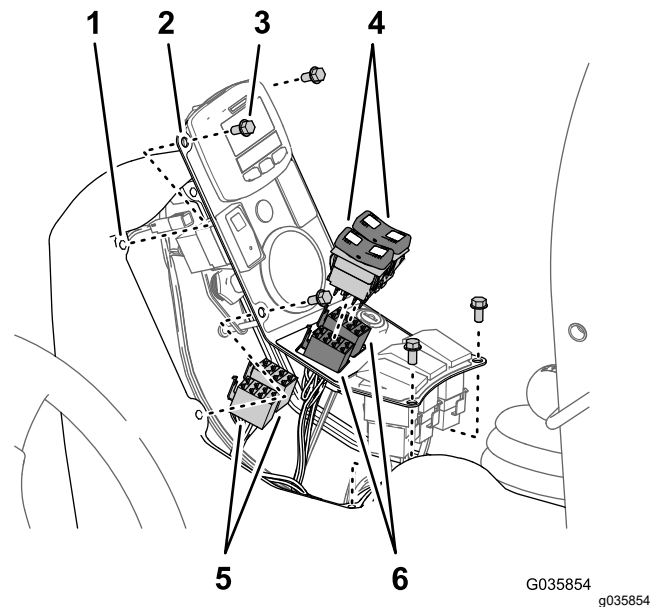
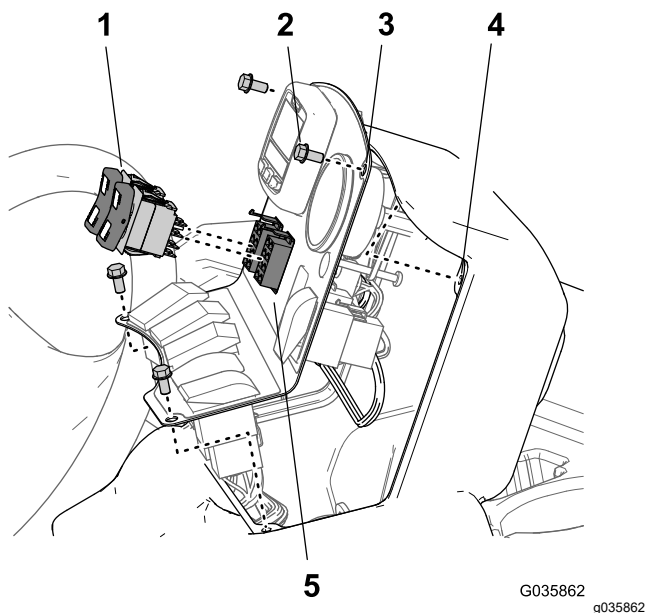

Figure 37
Figure 38
1. Remove the 4 flange-head bolts (1/4 x 1/2 inch) that secure the switch panel to the center console, and lift the panel (Figure 37 or Figure 28).
2. Disconnect the 8-socket connectors of the machine-wire harness from the boom-lift switches (Figure 37 or Figure 38).
3. Connect the rocker switches into the 8-socket connectors of the wiring harness for the ultra sonic boom finishing kit (Figure 37 or Figure 38).
5. Align the holes in the switch panel with the frame of the console (Figure 37 or Figure 38).
6. Secure the side cover on the center console with the 4 flange-head bolts (1/4 x 1/2 inch) (Figure 37 or Figure 38) that you removed in step 1.